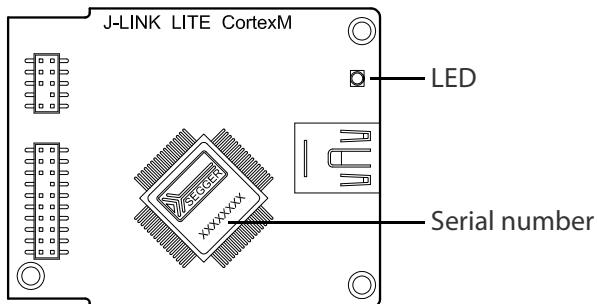

Figure 37 J-Link Lite CortexM-9 serial number location
2. Download and run the J-Link Software and documentation pack for Windows from <http://www.segger.com/jlink-software.html>. The serial number from your SEGGER J-Link hardware is needed, see *Figure 37* on page 57.